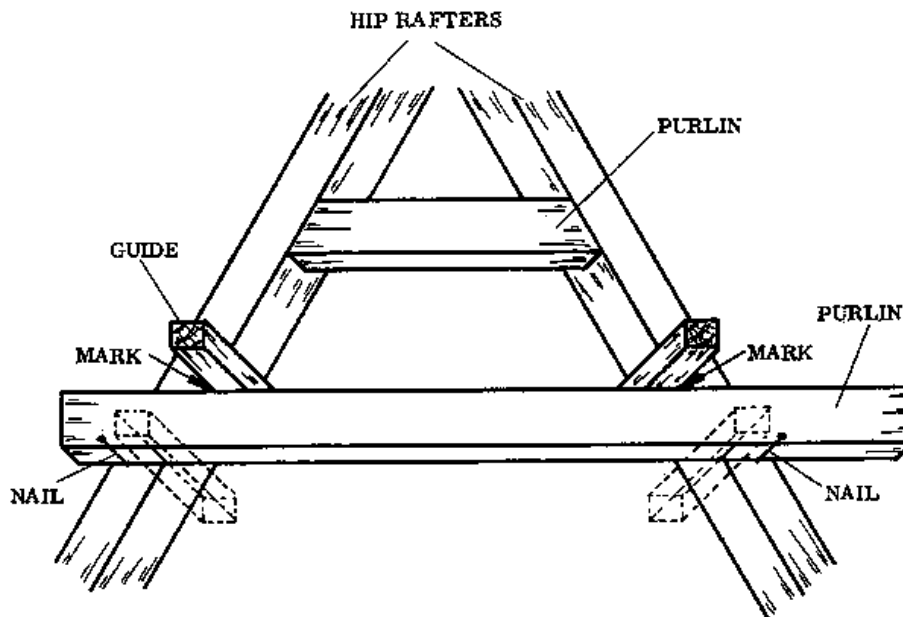

Fig. 2
- Mark the positions of the purlins on top of the hip rafters, and insert a nail at the mark to support the purlin during marking (Fig. 2).
- Place the purlin against the nails and mark the cutting lines. Use a short piece of wood as a guide (Fig. 2). Make the marks on both sides of the purlin at once, then mark both sides at the other end.